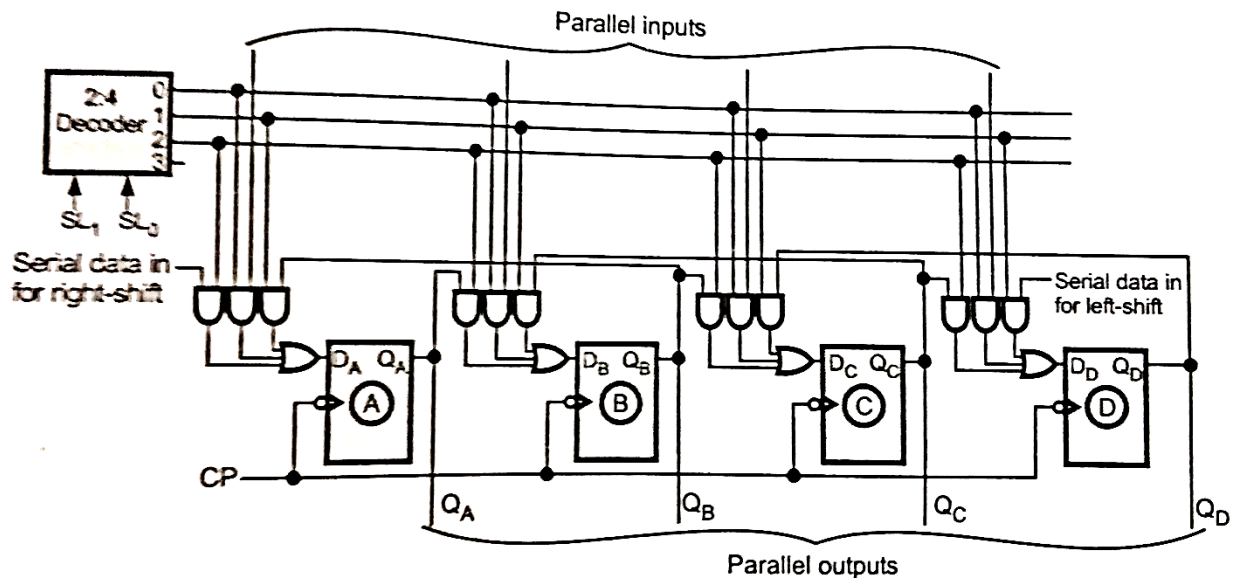

Figure 3.34: 4-bit bidirectional shift register with parallel load.
- Figure 3.34 shows bidirectional shift register with parallel load.